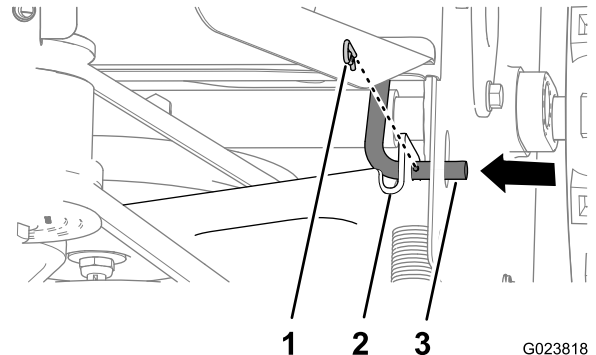

Figure 40
- Remove the hair pin from the traction-control rod (Figure 40).
- Remove traction-control rod from the traction-control bracket by moving the rod inward (Figure 40).
- Move the traction-control bracket rearward and align the hole in the bracket with the traction-control rod (Figure 40).
- Slip the rod through the bracket and secure the rod with the hairpin (Figure 40).